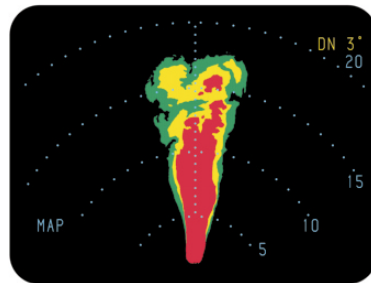

Figure 4
12. If the pattern shifts per Figure 4, there is no roll stabilization and the system should be ground checked per the Installation Manual.